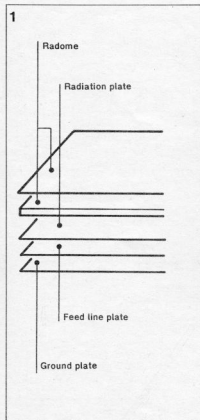

Fig. 1. The flat aerial is a multi-layer structure developed by Comsat Corporation.
The operation of a dish aerial is based on reflection of the received microwave power to the focus, i.e., the feed horn or LNB input. This is in contrast to the flat aerial, which receives power direct on a multi-layer laminated structure as shown in Fig. 1. Power loss is minimized by virtue of the stacking system of radome, radiation plate, feed line plate and ground plate. The multi-layer laminated structure developed by Comsat is claimed to yield high efficiency (60–70%), and sufficient gain for DBS reception over a wide frequency band. The flat aerial is much easier to point at the satellite than the dish. This is because of the greater half power beamwidth, which is typically 6–8° in the azimuth plane. With the exception of the "top of the range" model, the Type PA66-D, the flat aerials receive either right-hand or left-hand circularly polarized signals in the DBS band. The accompanying table shows the main technical characteristics of the available models. Note the use of the standardized LNB intermediate frequency (IF) of 950–1750 MHz, which ensures ready connection to most types of indoor unit